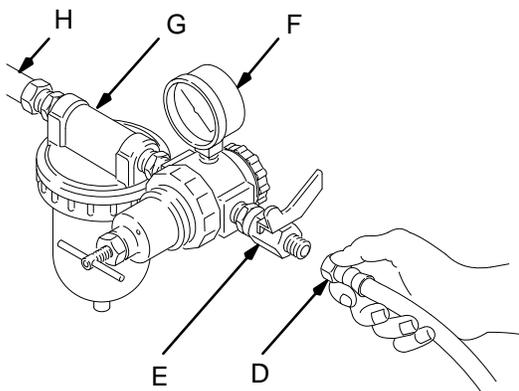

Fig. 2 _____ 01990
- You must install an air pressure regulator (F) on the gun air line to control air pressure to the gun. See Fig. 2.
- *If your regulated air source does not have a filter, install an air filter (G) on the air line to ensure a dry, clean air supply to the gun. Dirt and moisture can ruin the appearance of your finished workpiece. See Fig. 2.*
- A. Connect the air hose (D) to the 1/4 npsm gun air inlet (C).
- B. Connect the other end of the air hose (D) to a regulated air supply line (H).
NOTE: Fig. 2 shows the filter (G) air regulator (F), and air shut-off valve (E) on the air supply line.